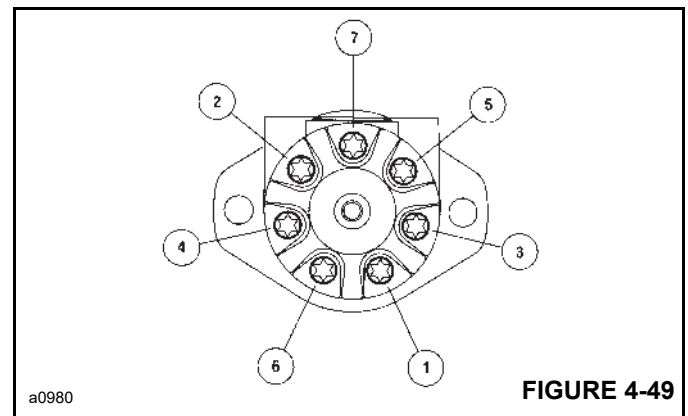

FIGURE 4-49
20. Install capscrews 19 and seal washers 18 in end cap 17. Tighten the capscrews to 7.4 Nm (40 lb-in). Make sure the seal washers are properly seated. Then, tighten the capscrews to a torque of 27-29 Nm (235-250 lb-in) in the sequence shown in Figure 4-49.